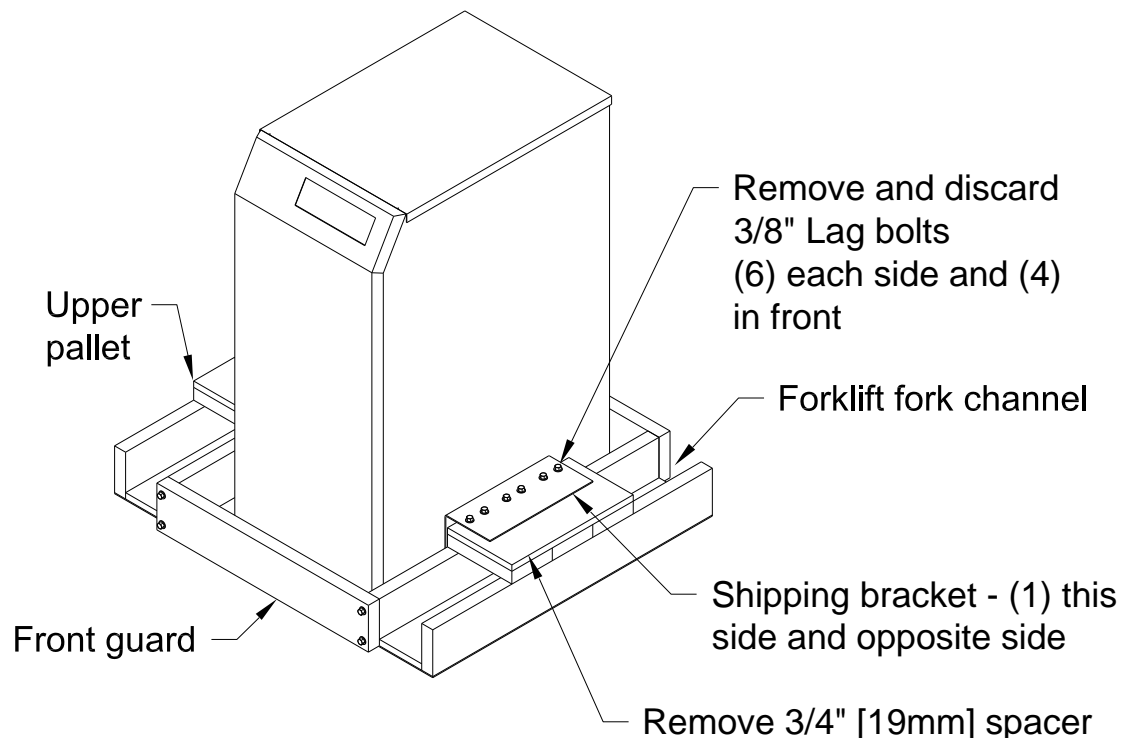

Figure 2 - UPS on pallet
2. With a forklift, lift the cabinet and upper pallet using the forklift channels (see figure 2) from the lower pallet by 1 to 2 inches. Slide the lower pallet completely away from the cabinet. Lower the upper pallet and cabinet to the floor.
3. Remove the (12) 3/8" lag bolts securing the shipping brackets to the pallet and the (4) 3/8" lag bolts securing the front guard board in place (see figure 2).
5. Ensure that the four (4) leveling feet are raised so that they will not touch the floor when the cabinet is placed on the floor.